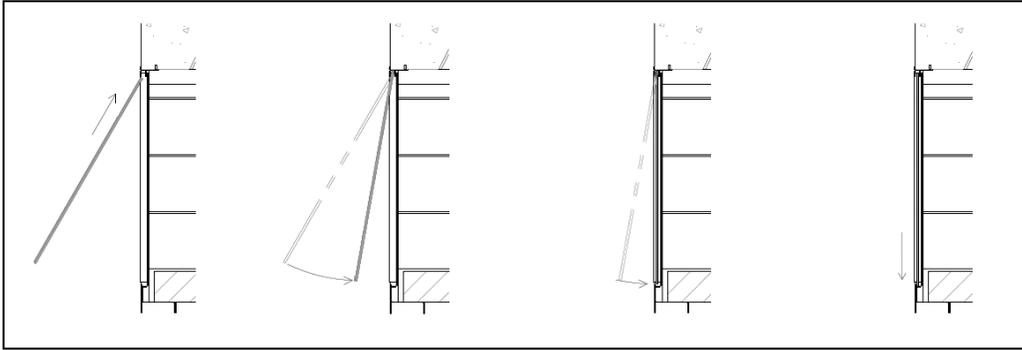

FIGURE 59
- 3) With the panel in an upright orientation, angle the top of the glass towards fireplace and insert the top edge of the glass panel into the channel of the Top Glass Bracket. In the same motion, raise the glass panel’s top edge to fully seat in the Top Glass Bracket while swinging the bottom edge of the glass panel in towards the fireplace. The bottom edge of the glass should align to the rear ledge of the Air Collector Box’s glass bracket, and the glass should be in a vertical orientation. Gently allow the glass panel to seat into the bottom Air Collector Box glass bracket (**Figure 59**).